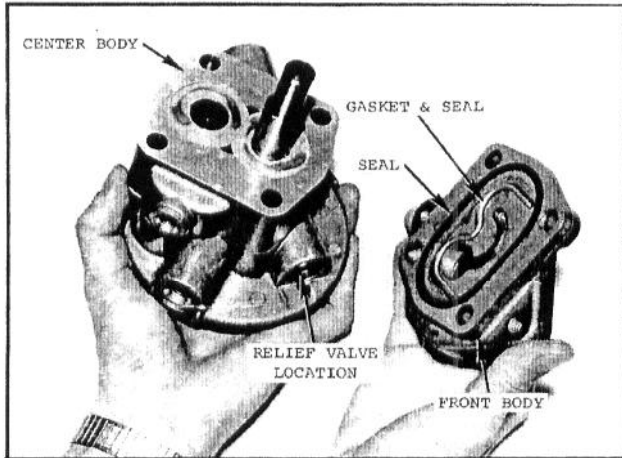
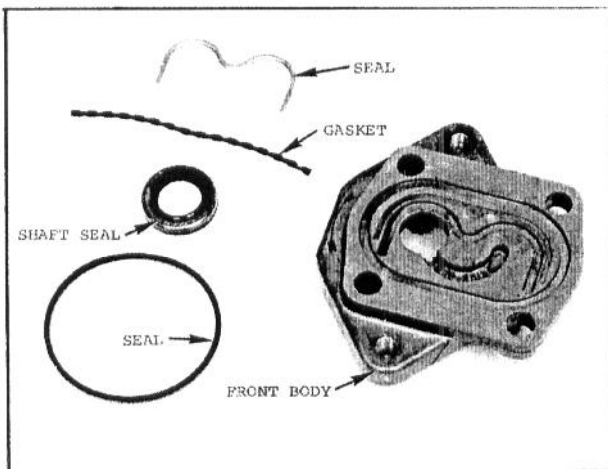

FIG. 4 — FRONT BODY REMOVAL
FIG. 5 — SEALS AND GASKET REMOVED FROM FRONT BODY
4. Remove bolts securing pump bodies together and separate the front body from the center body as shown in Fig. 4. Remove the seals and gaskets as shown in Fig. 5.
4. Dip new seals into clean hydraulic oil and install into front body. See Figs. 4 and 5. Position front body onto center body and install capscrews. Tighten to 30 ft.-lbs. torque.